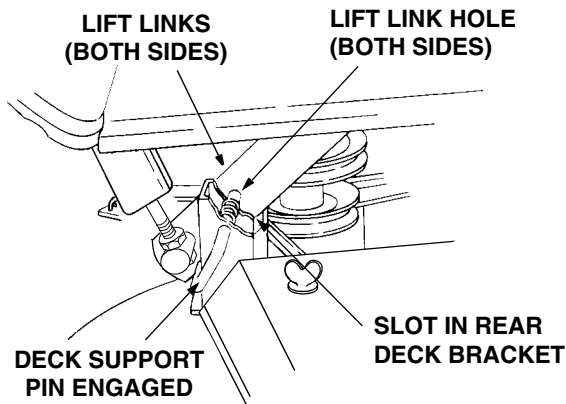

Figure 35
10. Carefully guide the tractor implement lift links (left and right) into the rear deck bracket slots (left and right) as the tractor implement lift handle is lowered to its lowest setting (Refer to Figure 35).
11. Pull both deck support pins outward and rotate rearward to disengage the outer surface of the rear deck brackets. Release the pins, making certain each deck support pin passes through the inner hole of the rear deck bracket. The spring tension will push the pins inward and, if aligned, through the hole in each implement lift link (Refer to Figure 35).